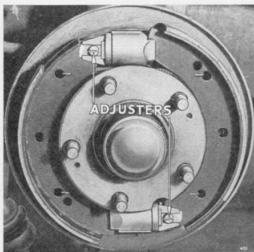

Fig. 34.
Should the shoes be removed, care must be exercised to ensure that the pull-off springs are located behind the shoes and hooked through the correct holes as shown in Figs. 34 and 35.
After a considerable mileage it may be found necessary to adjust the brakes. This is evident when the brake pedal has to be depressed to within 1" of the floor before the brakes operate. There are TWO adjusters to each front wheel and ONE to each rear wheel (see Figs. 34 and 35).
3. Rotate brake drum until hole provided coincides with screwdriver slot in micram adjuster (see Fig. 34 and 35).